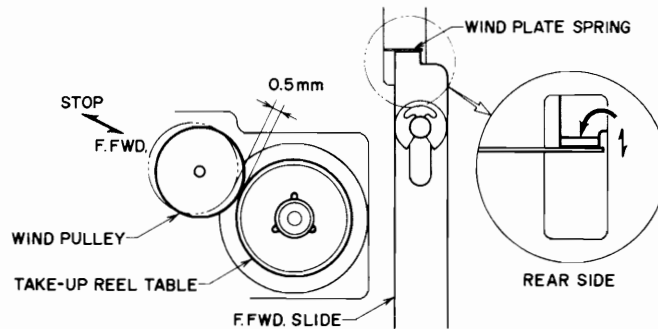

Fig. 3
3. F.FWD SLIDE ADJUSTMENT (See Fig. 3)